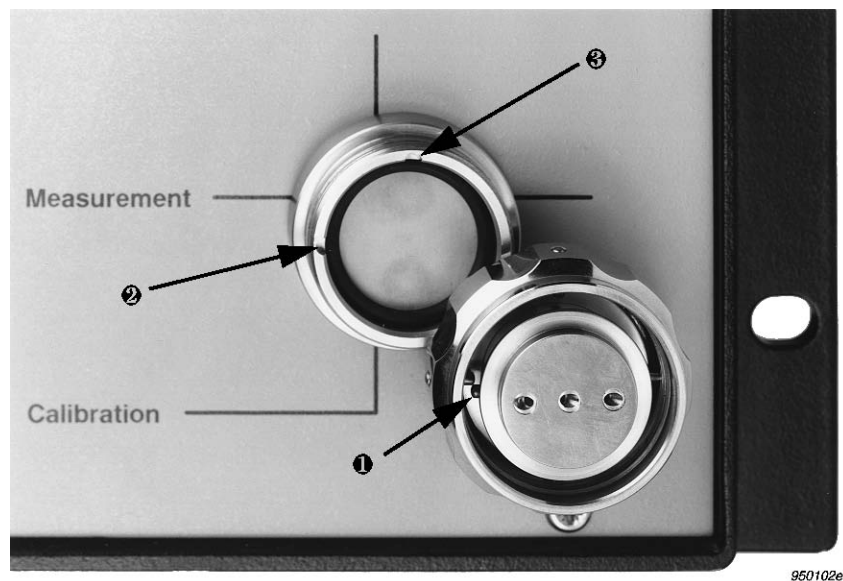

Fig.4.2 The inside of the calibration inlet filter and filter paper
1. Locate the filter housing on the front panel (see Fig.4.2).
6. Locate the stub on the inner side of the finger screw (marked ❶ in Fig.4.2).
7. Position the stub so that it fits into one of the two notches set in the mounting ring (marked ❷ and ❸ in Fig.4.2).